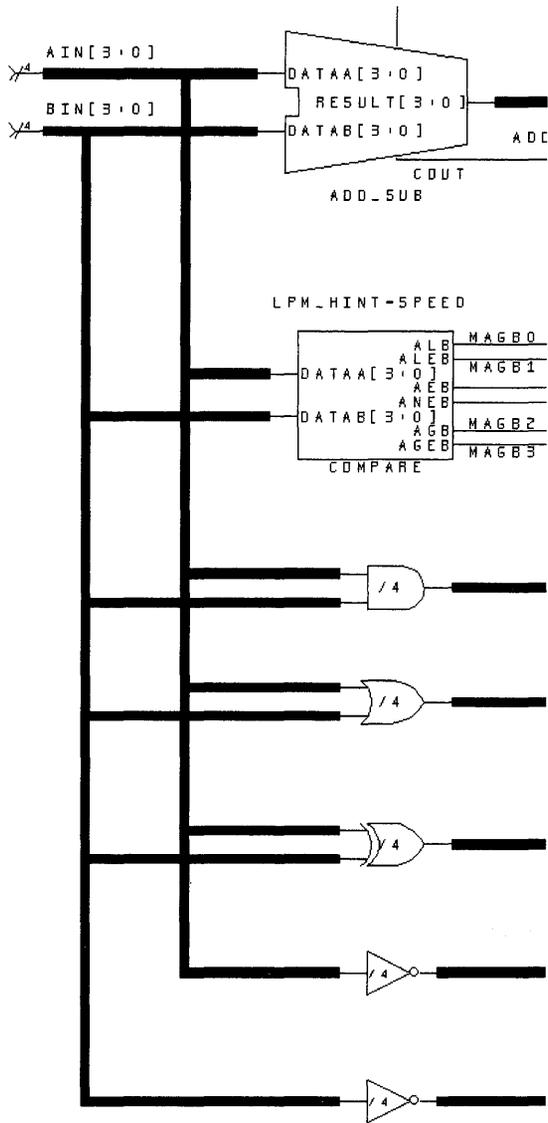

Figure 3-55 Connecting the A and B input buses
- => Repeat these steps for each of the remaining components: comparator, AND gate, OR gate, and XOR gate. The inverters have only one input each. Therefore, one of the inverters should have its input connected to the operand A bus, and the other should have its input connected to the operand B bus. Look at Figure 3-55 for a zoomed-in view of what the A and B input buses should look like after making the connections. If you made the A and B input buses too long, so that now they have pieces beyond the inputs to the inverters, click on the overhanging piece. Press “**d**” on the keyboard, or choose *Delete* from the *Edit* pull-down menu, to delete these unused pieces. Repeat this step for the other bus if necessary.